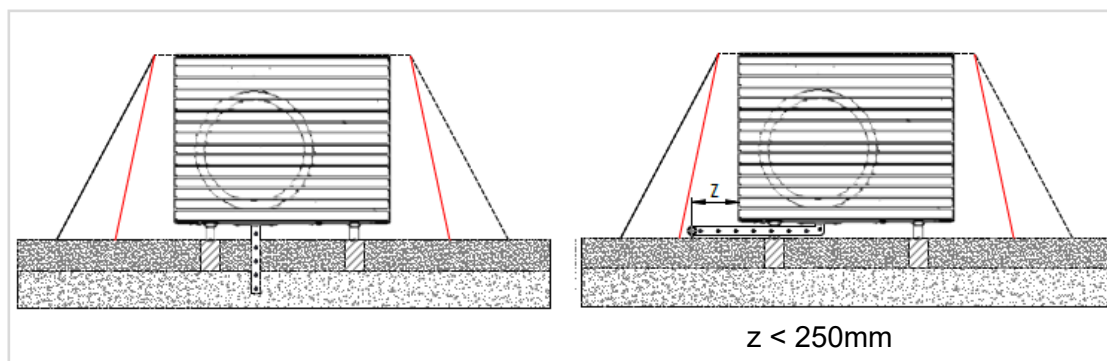

figure 9 - Evacuation into a bed of rubble or gravel
If the appliance is installed in a region where the temperature may fall below 0 °C for long periods, fit the condensate drain hose with a trace heater to prevent it from icing over (see Figure 9 page 38).
- Installation under a shelter or an alcove causes the unit's performances to drop. To limit this drop, an alcove must have 2 open opposite faces in the axis of the fan. If due to location, the open sides cannot comply with this rule, provide a removable enclosure around the unit to separate the air inlet and outlet. A gutter or drain should be installed to drain condensation water (see Figure 9 page 38).
All of the TYNEHAM units have been designed so that the base of the unit acts as a condensate drainage tray. A plastic connector is supplied and is to be installed under the base, to connect a hose to channel the condensation water. Each unit is therefore equipped with a hole on the base of the hydronic kit on the battery side for the evacuation of any condensation that may penetrate through the pipes of the hydraulic system. As these pipes are well insulated, the production of condensation is minimised and it is therefore not necessary to connect a drainage pipe to this connection (see Figure 9).